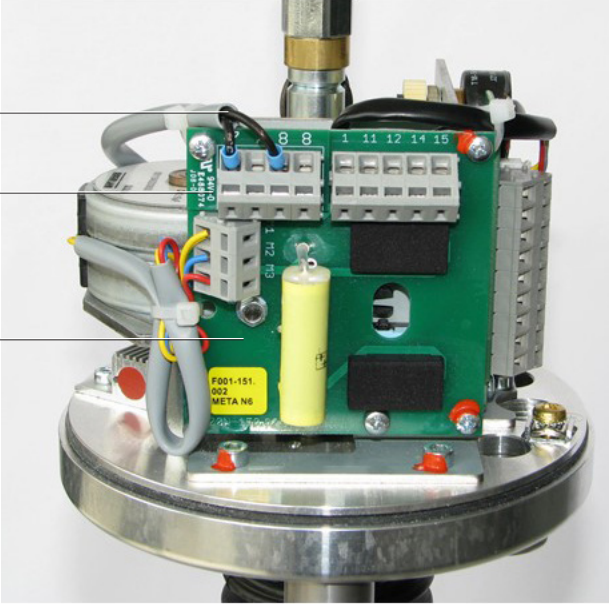

Fig. 15
- Refer to Figures 15 to 20 "Heater Installation 1 - 6 kN" for product orientation and fix the anti-condensation terminal board to the main board with the screws supplied